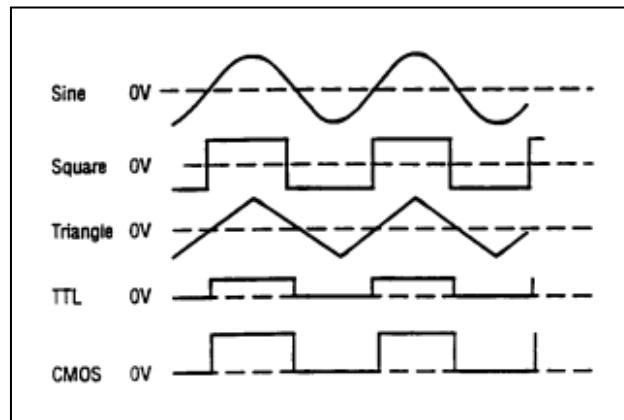

Figure 2. Output Waveform and Phase Relationship
1. Initially, verify that the **DUTY CYCLE** (14), **CMOS LEVEL** (13), **DC OFFSET** (12), **-20dB** (11) switches are in the OUT position (released). This will produce a symmetrical waveform unaffected by the other controls.
2. Plug the unit into an appropriate power source and turn it on by engaging the **POWER** switch (1).
3. Select the desired waveform (SINE, SQUARE, or TRIANGLE) by engaging one of the **FUNCTION** switches (3). Phase relationships of the waveforms are shown in Fig. 2.
4. Select the frequency of the waveform by engaging one of the **RANGE** switches (2).
5. Rotate the **FREQUENCY** control (15) to set the output frequency to the desired value. The frequency selected is available at the **OUTPUT** jack (6). In addition, a digital signal, either TTL or CMOS is available at the **TTL/CMOS** jack (7) (refer to the "TTL/CMOS OUTPUT" section of this manual).